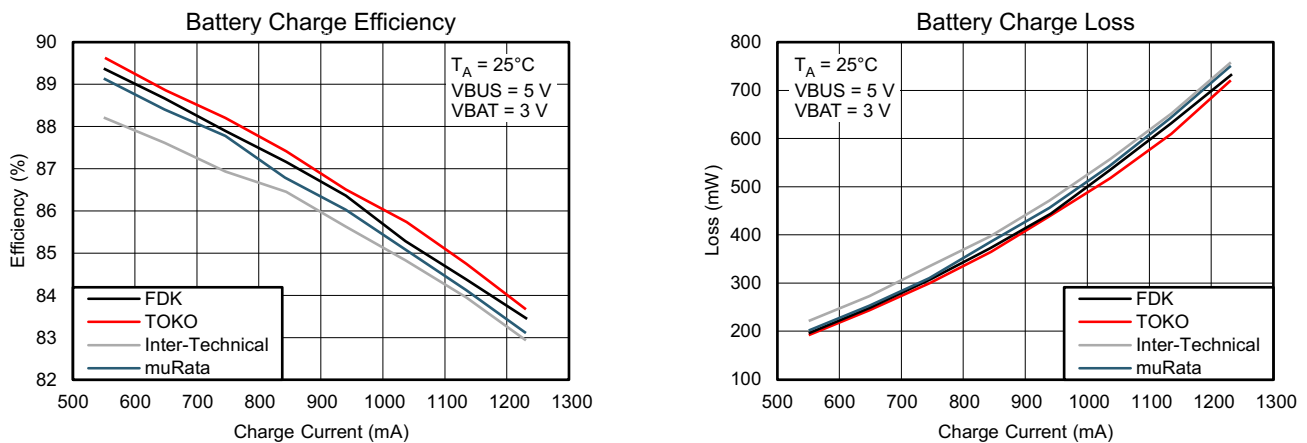
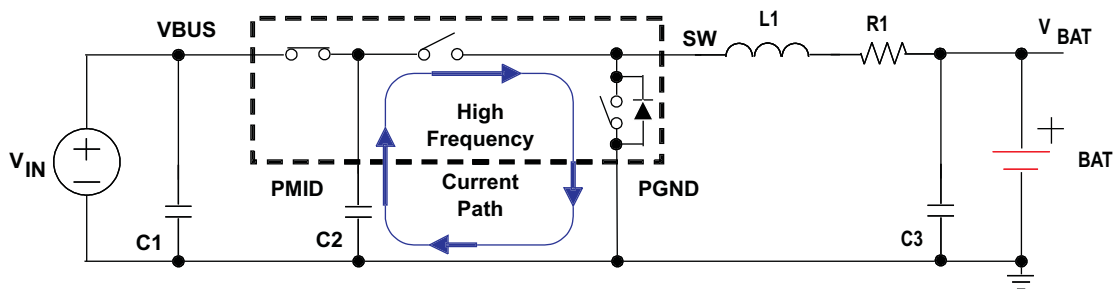
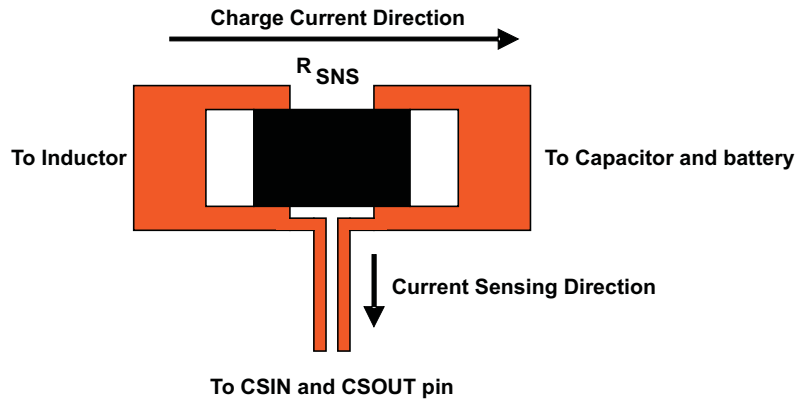

Figure 29. Measured Efficiency and Power Loss
Figure 36. High Frequency Current Path
Figure 37. Sensing Resistor PCB Layout
4. Measured efficiency and total power loss with different inductors are shown in Figure 29. SW node and inductor current waveform are shown in Figure 36.
- To obtain optimal performance, the power input capacitors, connected from input to PGND, should be placed as close as possible to the pin. The output inductor should be placed close to the IC and the output capacitor connected between the inductor and PGND of the IC. The intent is to minimize the current path loop area from the SW pin through the LC filter and back to the PGND pin. To prevent high frequency oscillation problems, proper layout to minimize high frequency current path loop is critical (see Figure 36). The sense resistor should be adjacent to the junction of the inductor and output capacitor. Route the sense leads connected across the RSNS back to the IC, close to each other (minimize loop area) or on top of each other on adjacent layers (do not route the sense leads through a high-current path, see Figure 37).